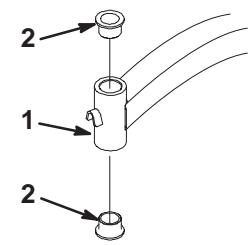

Figure 81
- Insert a pin punch into the mounting tube and carefully drive out the bushings (Fig. 81). Clean the inside of the mounting tube.